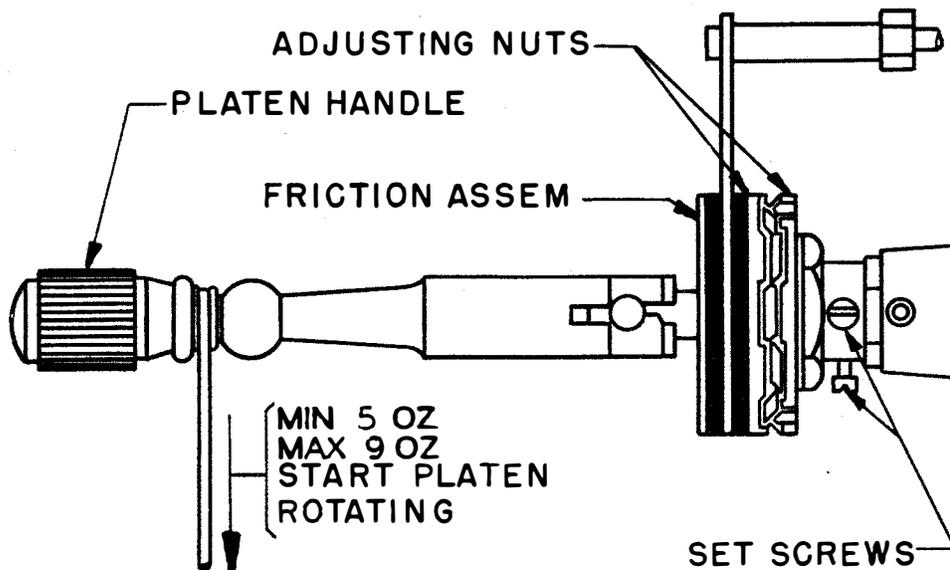

Figure 52
- 2.120 Platen-friction Assembly should require a pull of minimum 5 ounces, maximum 9 ounces to start the platen rotating when the pressure-roller-release shaft arm is in its extreme rear position, the line-feed detent-lever spring is unhooked, and the platen handle is placed vertically upward. See Figure 52.